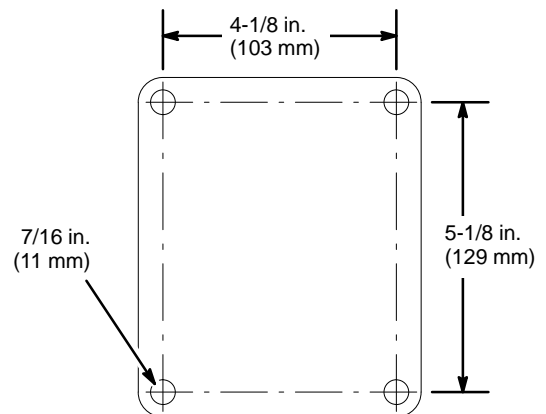

Fig. 1
2. Locate the bracket 52 in. (1.3 m) off the floor. Use 3/8 in. screws and lock washers of the appropriate type and length for your installation. See Figs. 1 and 2.